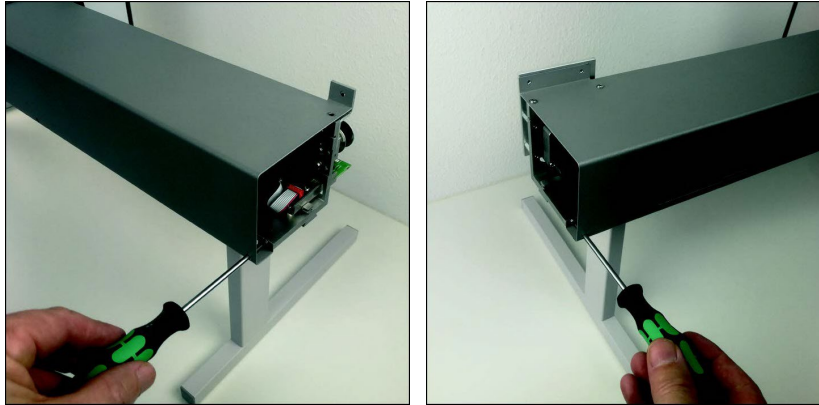

Figure 110: X-beam Rear Cover Assembly 4
- Using a Torx Tx10 screwdriver, fasten the right and left lower screws a shown in Figure 110.